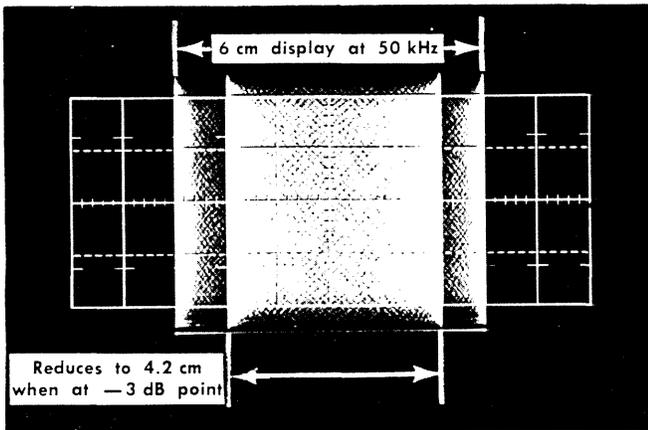

Fig. 5-7. Typical CRT display when checking horizontal amplifier response. Picture is a double exposure to show the two amplitude points.
- Check—Horizontal amplitude of the display must equal or exceed 4.2 cm. (-3 dB point) See Fig. 5-7.